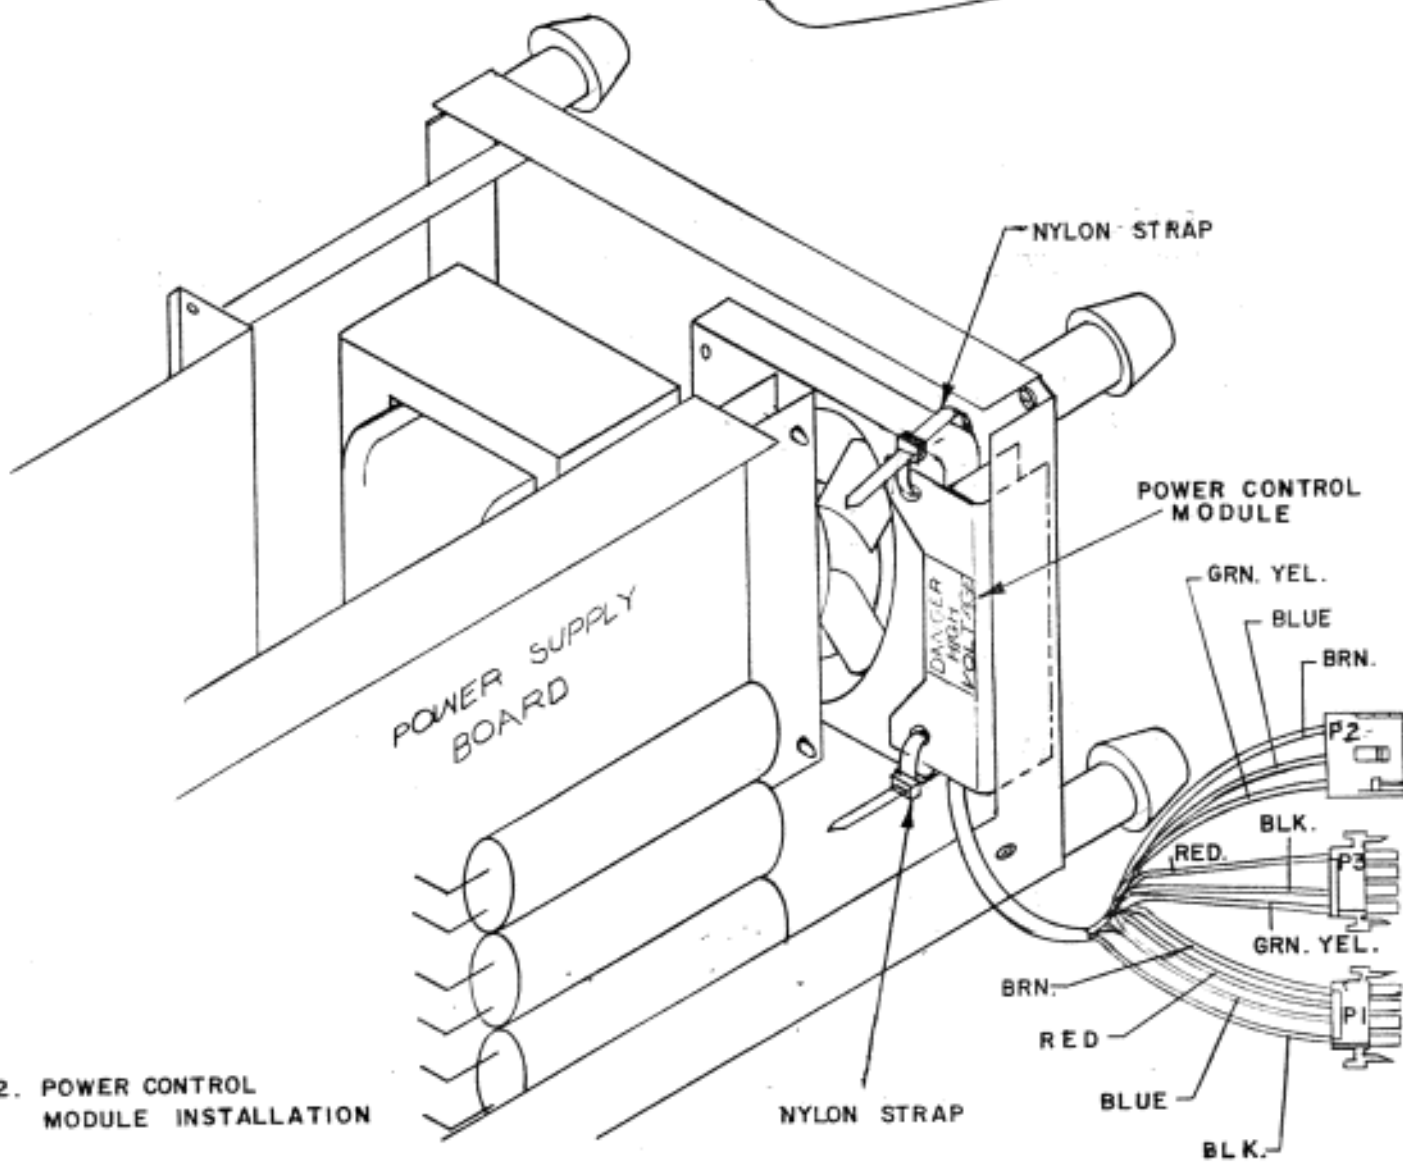

FIGURE 2. POWER CONTROL
7. WITH THE POWER CONTROL MODULE ORIENTED AS SHOWN IN FIGURE 2, CAREFULLY ROUTE THE MODULE CONNECTORS THROUGH THE OPENING BETWEEN THE FAN HOUSING AND THE POWER SUPPLY BOARD. THE WIRES SHOULD BE ROUTED BELOW THE FAN.
NOTE: THE CONNECTORS ARE SHOWN OUTSIDE OF THE CHASSIS, IN FIGURE 2, FOR IDENTIFICATION PURPOSES ONLY.
8. POSITION THE MODULE AGAINST THE FAN HOUSING, AS SHOWN IN FIGURE 2. THE MODULE WILL FIT INTO THE VOLUME BETWEEN THE FAN HOUSING AND CHASSIS. WHILE HOLDING THE MODULE AGAINST THE HOUSING, THREAD A CABLE CLAMP THROUGH A PAIR OF ALIGNED HOLES; SLIP THE END OF THE CLAMP THROUGH ITS LOCKING TAB AND PULL THE END UNTIL THE MODULE IS HELD TIGHTLY AGAINST THE HOUSING. REPEAT THIS PROCEDURE WITH THE OTHER PAIR OF ALIGNED HOLES.